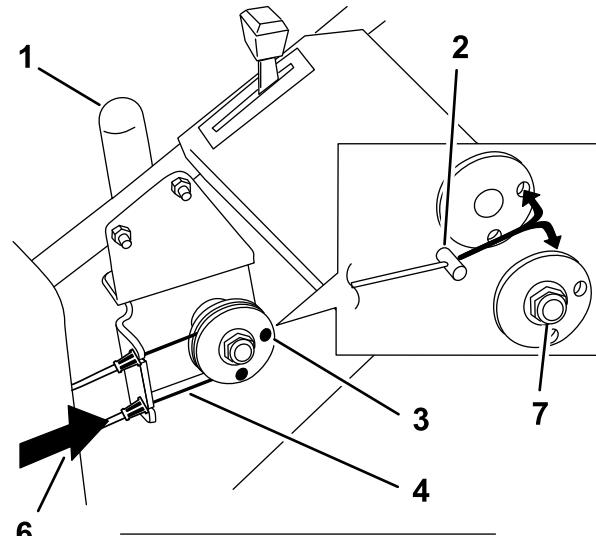

Figure 11
3. Loosen the locknut and insert the cable ends between the pulley. It is important to install the cables as shown in Figure 11. This will ensure the chute operates as shown in the Operation Section.
4. Install the cable into the slot and then push the plastic retainer into the hole (Figure 11).